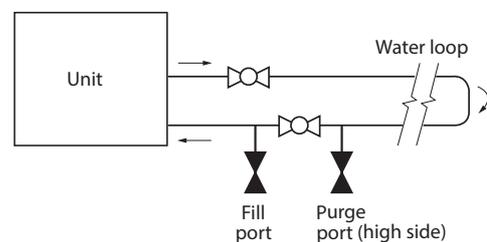

Figure 3
Refer Figure 3 for client wiring.
- Hold down the UC8 controller's push-button 'SW3' (see Fig.3) until the display shows the number '1', then long press to select the item.
- The selected heating LWT mode (H) starts immediately after the button is released. Use the display and short push-button presses to make changes to the settings.
- The selected cooling LWT mode (C) starts immediately after the button is released. Use the display and short push-button presses to make changes to the settings.